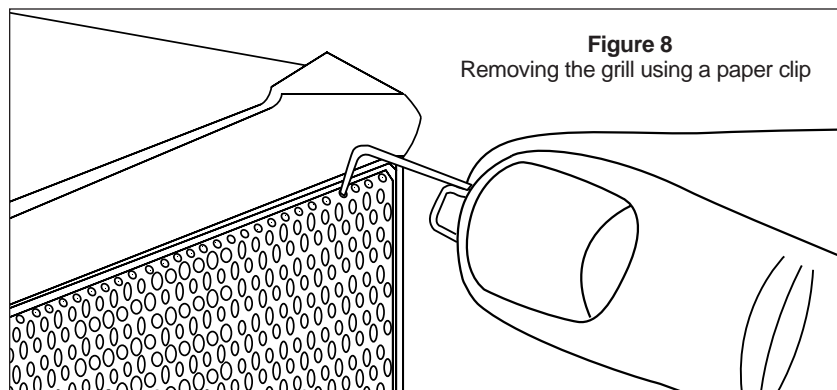

Figure 8 Removing the grill using a paper clip
1. Separate the parts of the speaker. You should remove the brackets and the bracket knobs. Remove the grill by hooking it with a bent paper clip or the tip of a corkscrew and pulling it away from the cabinet (See Figure 8).